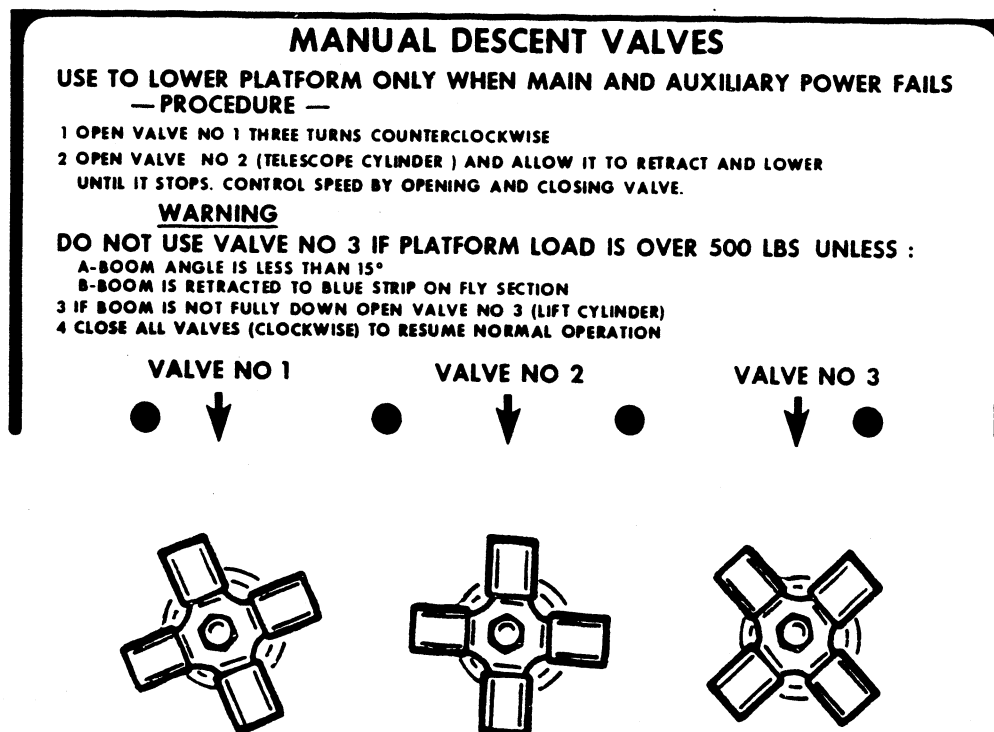

Figure 6-1. Manual Descent Valves
c. Manual Descent And Retraction. (Figure 6-1.)